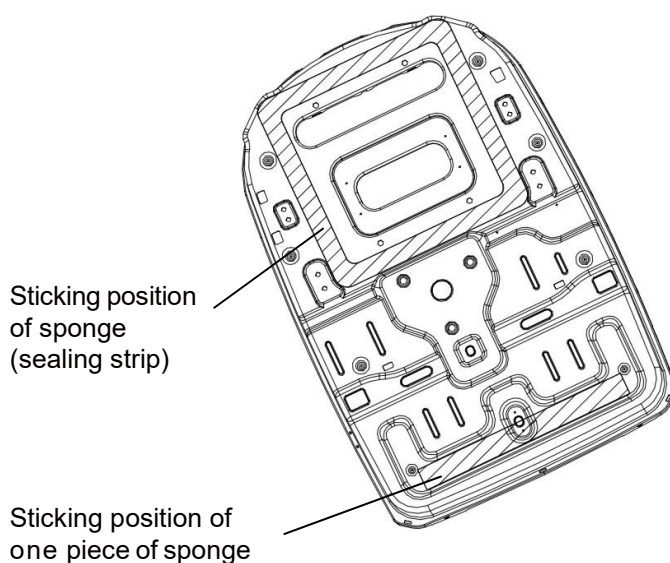

Figure 1
1. Before sticking, clean up the sundries at the sticking position (as shown in Figure 1) of the chassis of the outdoor unit to ensure that the sticking position is clean;
2. Take out one piece of sponge (sealing strip) and one piece of sponge from the accessories, and tear off the paper on the glue surface and align at the edge of the position as shown in Figure 1 to stick the sponge.